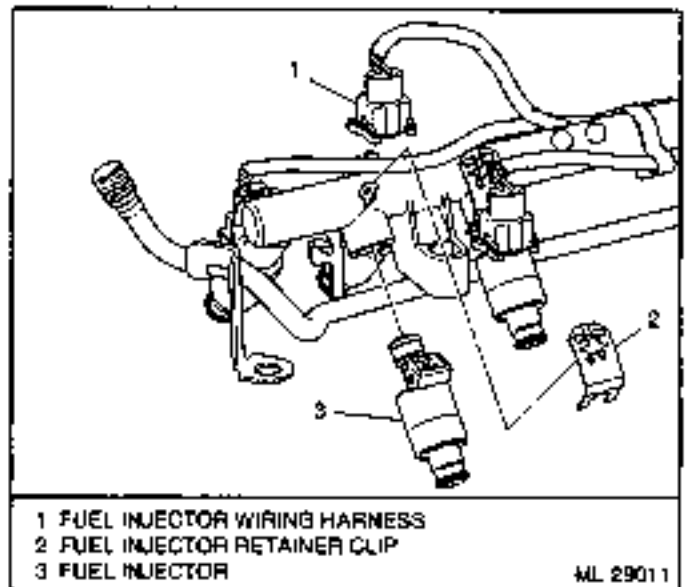

Figure 3-15 • Injector Clip Removal
Figures 3-15 through 3-18
1. Release injector clip by sliding off injector (Figure 3-15).